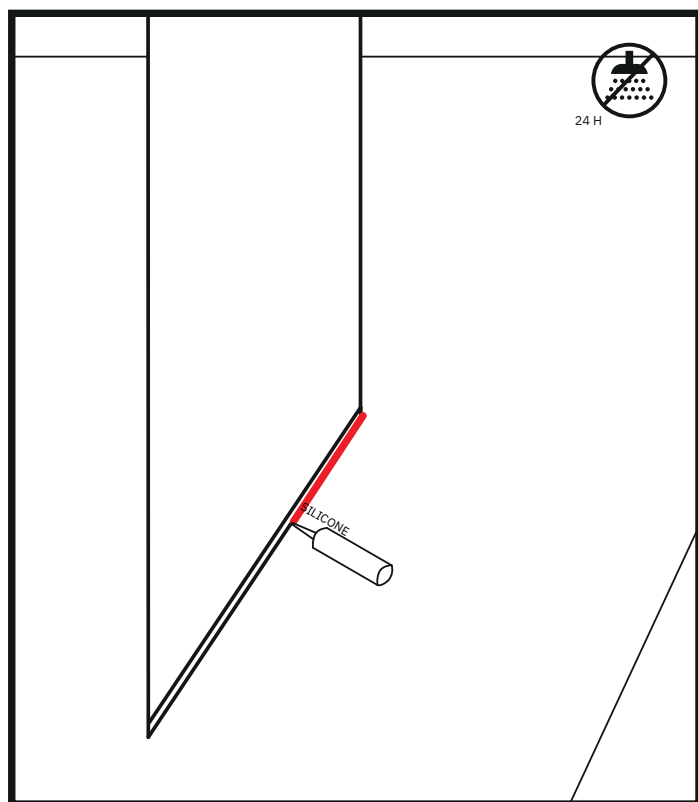
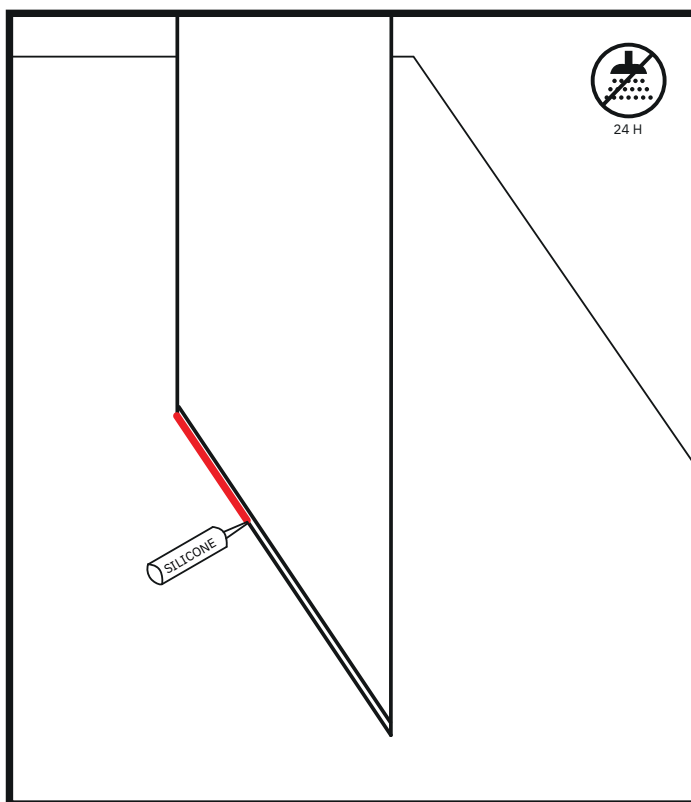

Figure 8
Figure 9
24. Apply an even bead of silicone to the edges of the U-profiles on both the inside (Figure 8) and outside (Figure 9) of the shower enclosure.